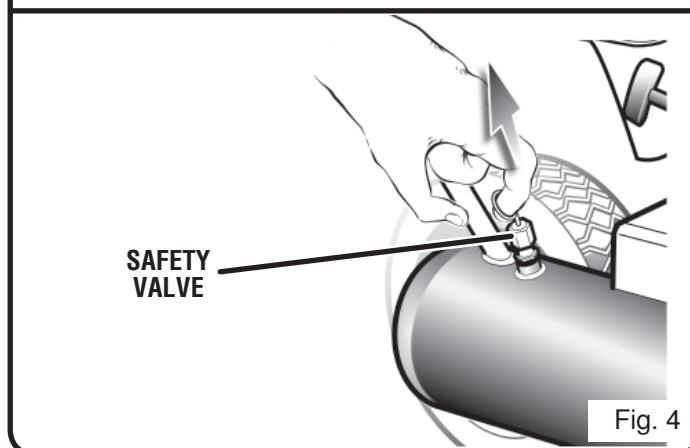

Fig. 4
- Reduce the air pressure in the tank to 30 PSI by pulling the safety valve ring (Fig. 4).
See Figure 4.
Completely relieve the system of air pressure by pulling the ring on the safety valve. Continue to pull the ring until all air pressure escapes (Fig. 4).
- The safety valve automatically releases air if the air receiver pressure exceeds the preset maximum. Check the safety valve before each use, following the instructions found in **Checking the Safety Valve**. Pull on the ring of the safety valves to make sure they are operating correctly. Air pressure should escape when the ring is pulled (refer to Fig. 4).